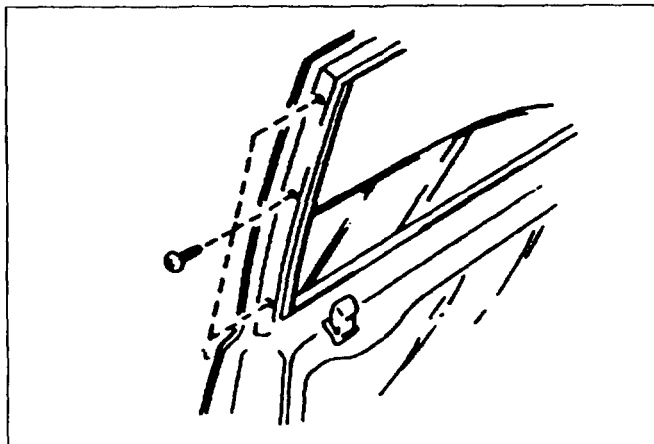

Figure 6: Rear of front door
1. Remove the 3 screws which secure the glass guide rail and remove the door inner trim panel. **Figure 6.**